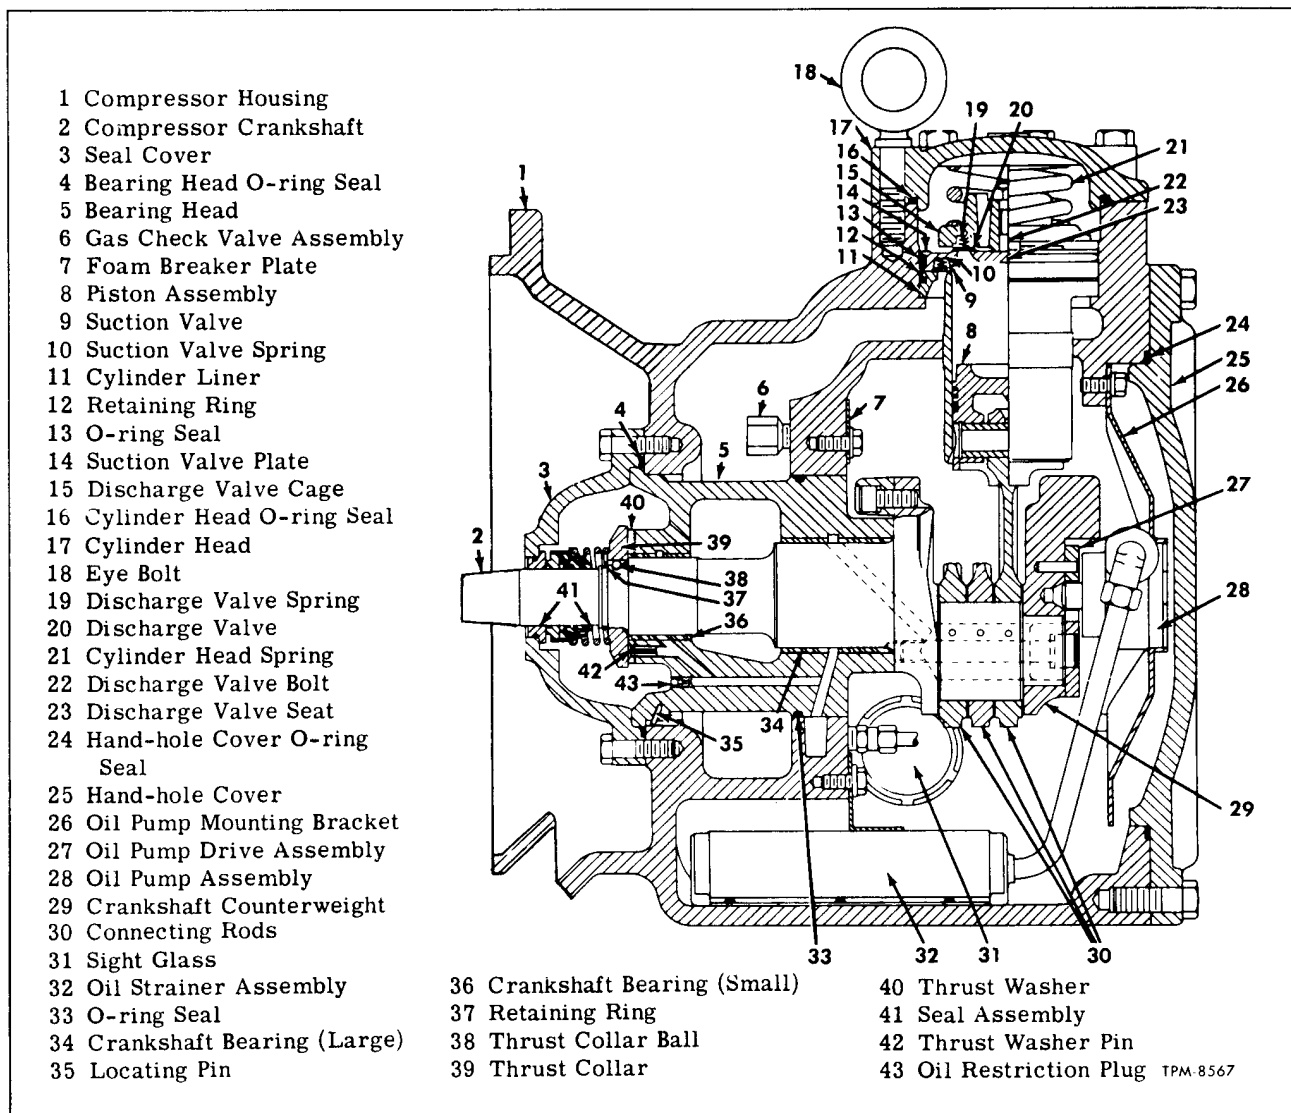

Figure 40—Sectional View of Refrigerant Compressor
Before servicing compressor (fig. 40), the system must be pumped down and the unit removed from coach. Pumping down system instructions are explained later under "SYSTEM SERVICES AND TESTS." See "Pumping Down The System." Instruction procedures for removing compressor
(Key numbers in text refer to figure 40)
2. Use a small soft wire to clean oil restriction plug (43, fig. 40) in bearing head.
NOTE: Key numbers in following text refer to figure 40.